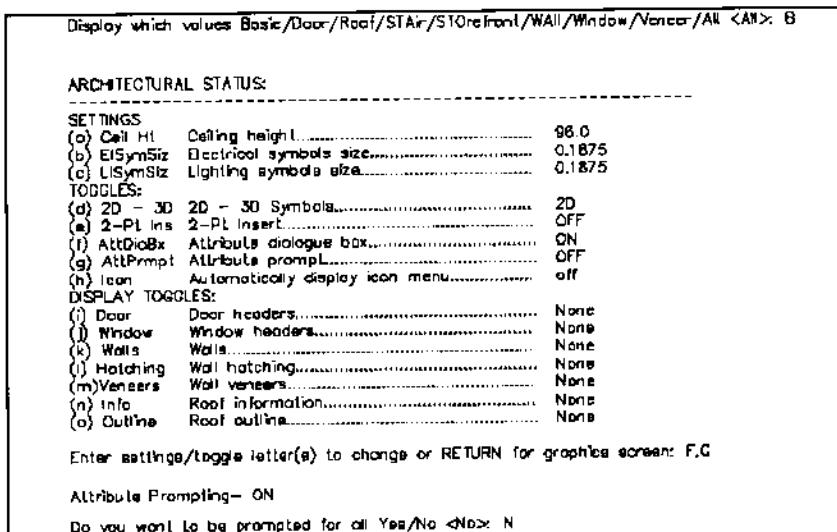

Figure 3.
3. Set Attribute dialog box ON (letter F) and attribute prompt to NUMBERSONLY (letter G), responding with NO at the command prompt: "Do you want to be prompted for all Yes/No" as shown in Figure 3.